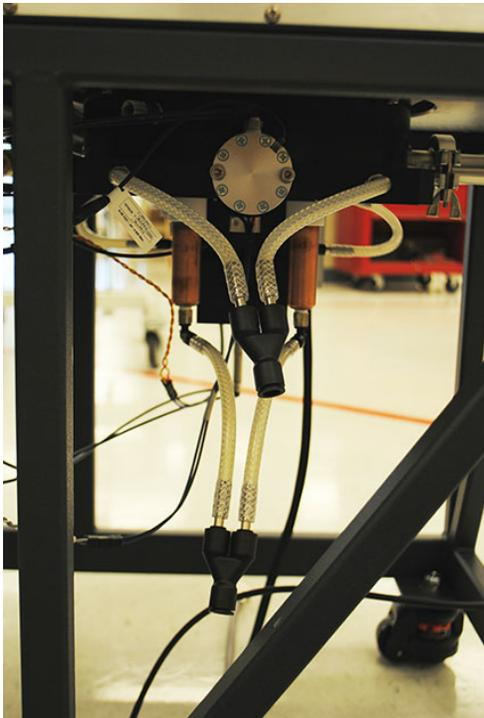

Figure 28 Coolant lines under the EM-2800.
- 3 Connect one end of the coolant line with quick-disconnect fitting to the bottom Y shape fitting on the bottom of the EM (see Figure 28) and the other end to the Heater Cooling Supply on the front of the Power Cart.
- 4 Connect one end of the coolant line with quick-disconnect fitting to the top Y shape fitting on the bottom of the EM (see Figure 28) and the other end to the Heater Cooling Return on the front of the Power Cart.